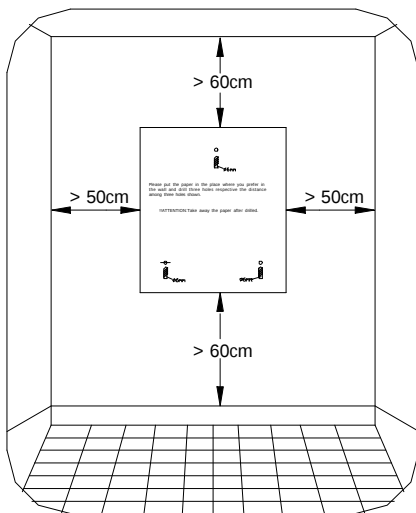

Fig. 1
2. Position the installation template sheet in the place where you wish to wall mount your heater, and drill 3 holes, as indicated on the diagram below. (Fig 1)